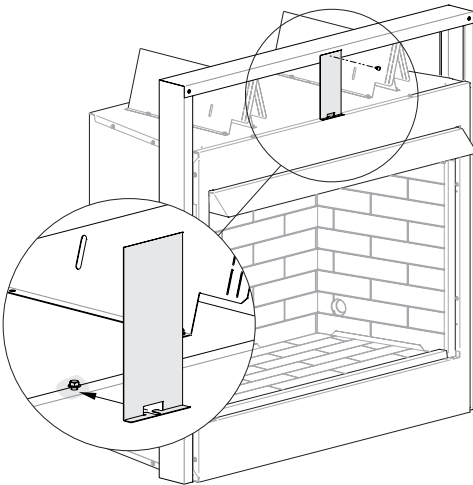

Figure 10
3. Locate the middle bracket. Loosen the screw in the middle top of the fireplace. Slide the bracket under the screw as shown in Figure 10. Tighten the hex-head screws on the fireplace secure a pan-head screw through the middle bracket and into the top stud.
- Locate the middle bracket. Loosen the screw in the middle top of the fireplace. Slide the bracket under the screw as shown in Figure 10. Tighten the hex-head screws on the fireplace secure a pan-head screw through the middle bracket and into the top stud.